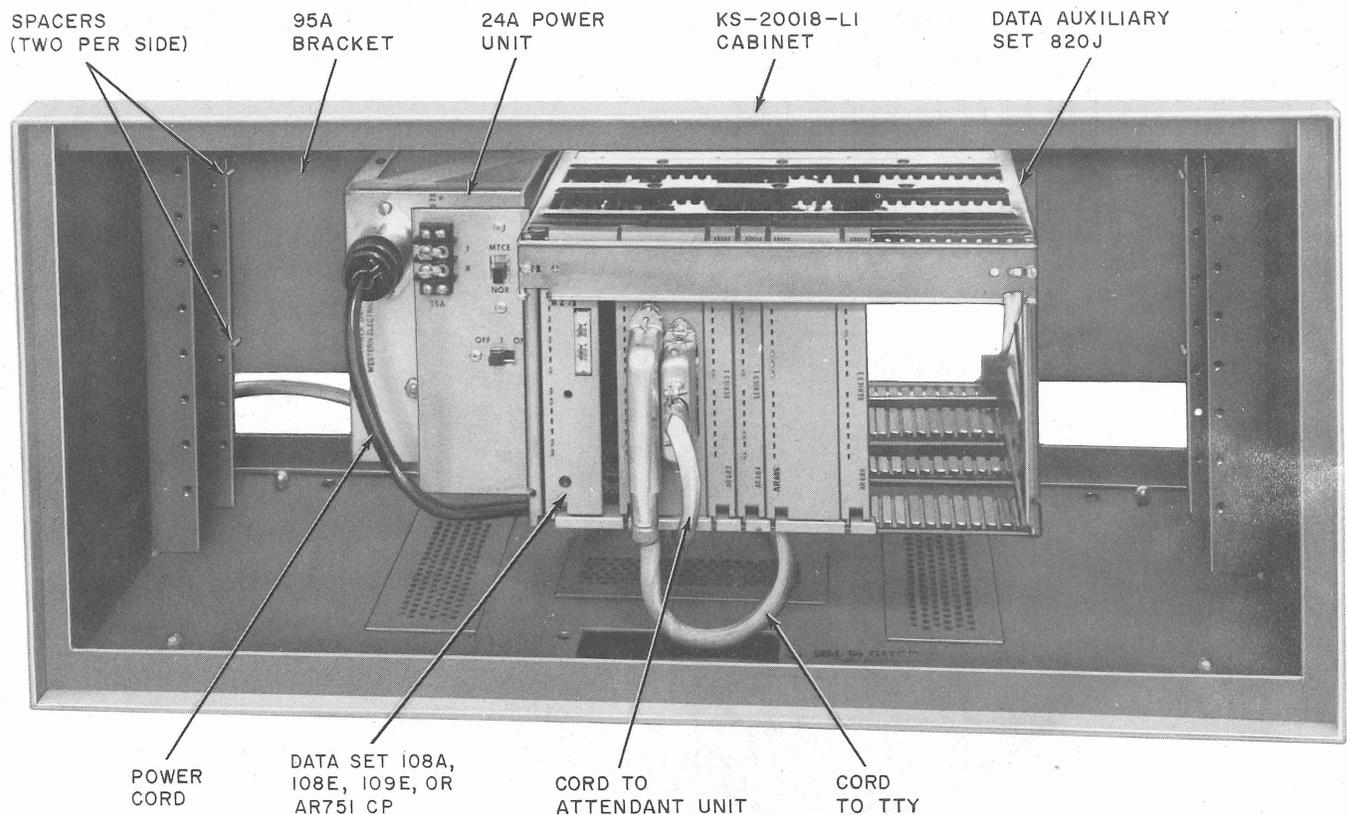

Fig. 4—DAS 820J-Type Mounted in a KS-20018 Cabinet With Front Panel Removed
- (1) Apply outward pressure at the top of the KS-20018 cabinet panel until the catches disengage.
- (2) Lift the panel up to remove it from the frame of the cabinet (Fig. 4), thereby providing access to the DAS.